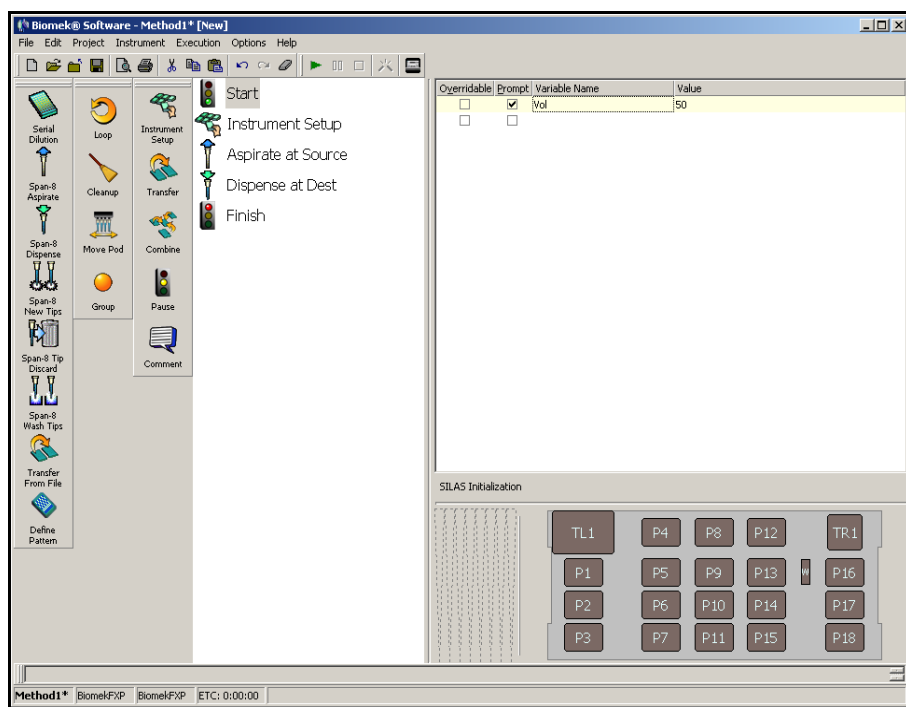

Figure 7-8. Prompting for value of a variable
2. Select the **Prompt** check box for the variable Vol. Your **Start** configuration should now look like Figure 7-8.